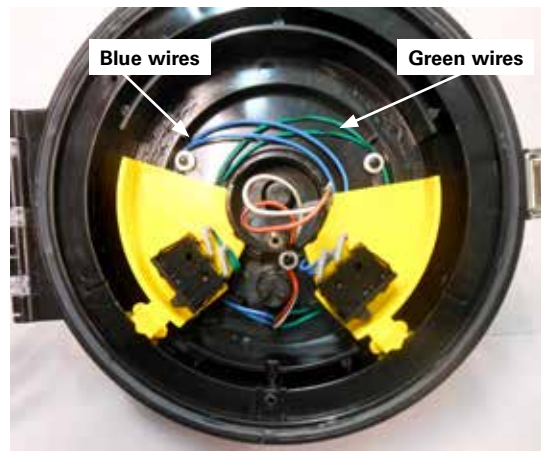

Figure 8. Limit switch assemblies and wiring
10. Identify the raise and lower limit switches. The raise limit switch is marked with an A01 and is connected with blue wires. The lower limit switch is marked with an A02 and is connected with green wires. See Figure 8.
2. Using needle-nose pliers, connect the wires to the switch - blue for the the right-hand/raise limit switch and green for the left-hand/lower limit switch. See Figure 8.